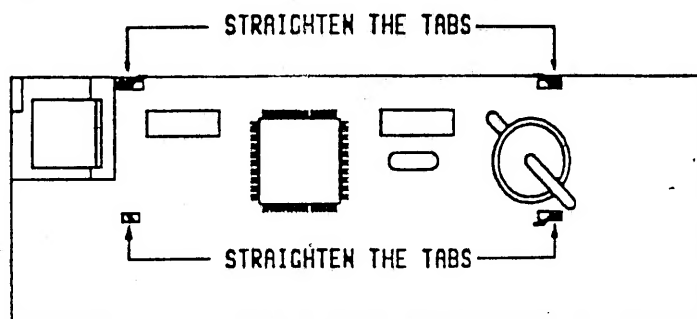

FIGURE 5
23. Straighten the tabs that hold the LCD assembly to the Control board. Carefully pull the LCD assembly off the Control board (do not break the flex cable). Figure 5